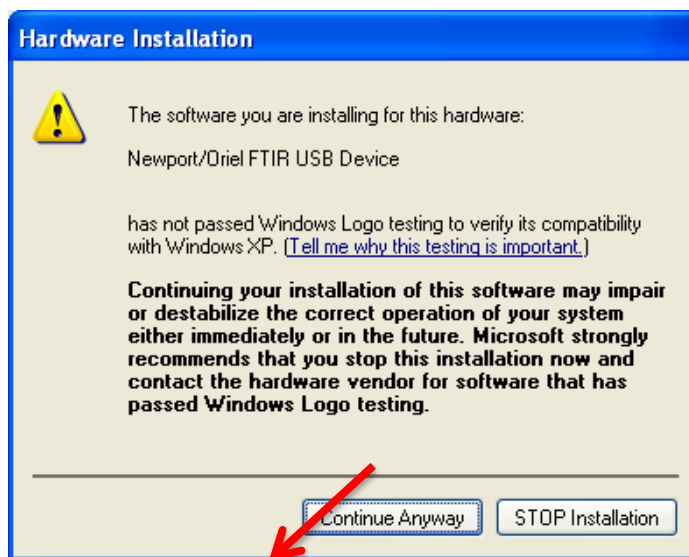

Figure 30: Windows XP Signed Driver Prompt
6. The window shown in Figure 30 may appear. Click “Continue Anyway”.